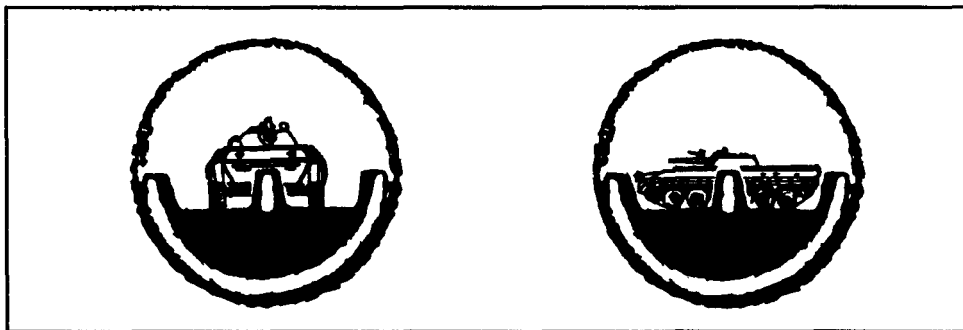
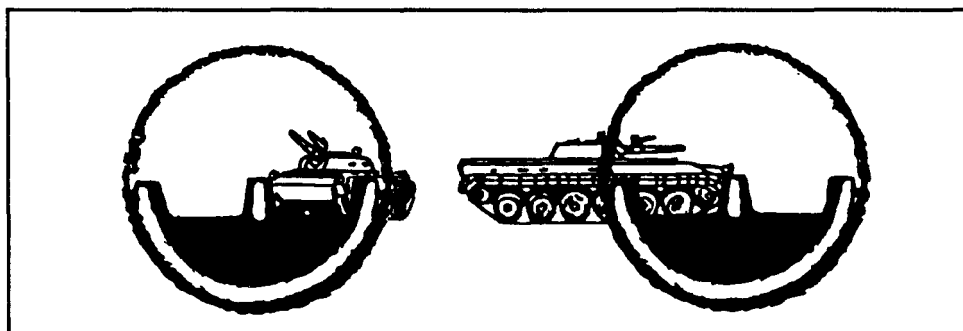

Figure 4-8. Sight picture, stationary targets, M136 AT4.
Figure 4-9. Sight picture, slow-moving targets, M136 AT4.
(2) **M136 AT4.** *Stationary targets* include those moving directly toward or away from the firer. Adjust the rear sight for the correct range and place the center sight post in the center of the target (Figure 4-8). *Slow-moving vehicles* are those with an estimated speed of 10 mph or less, or those moving in an oblique direction. Place the center sight post on the front or leading edge of the vehicle (Figure 4-9). *Fast-moving vehicles* are those estimated to be moving faster than 10 mph. Place either the left or